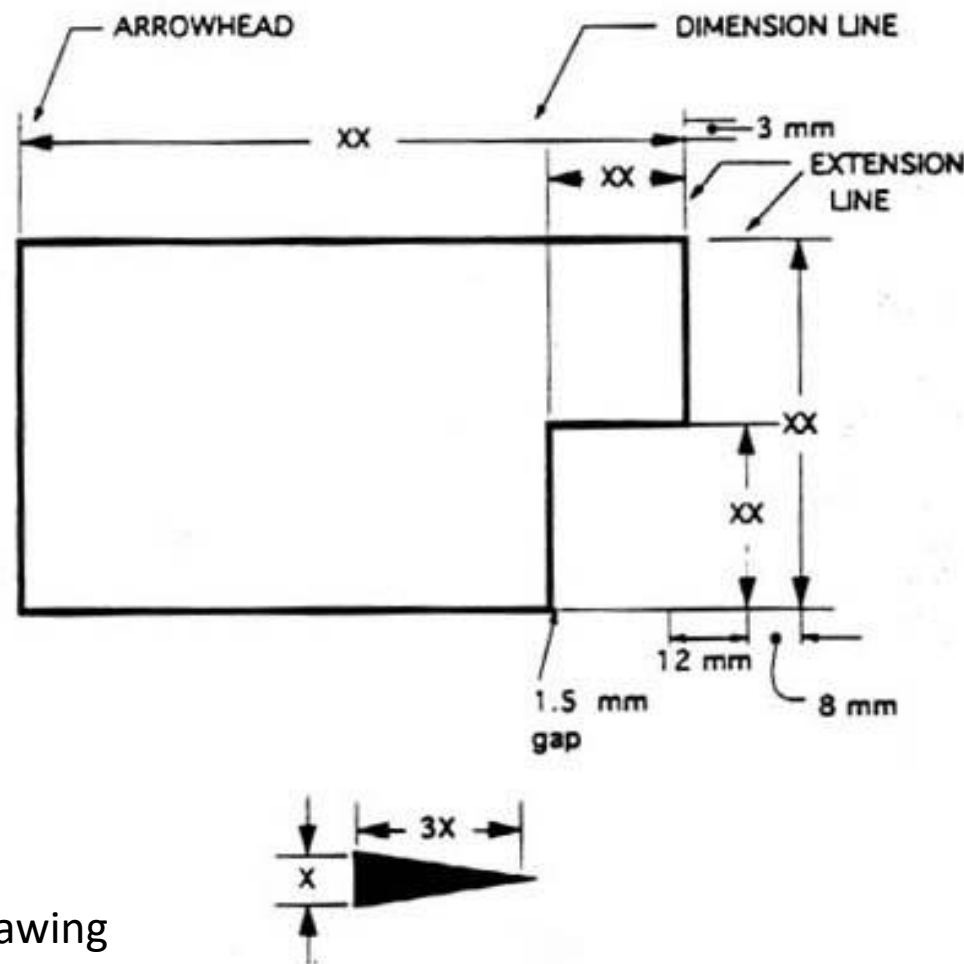

Figure 23 - Dimensioned Drawing
- The **dimension line** is a thin line, broken in the middle to allow the placement of the dimension value, with arrowheads at each end (figure 23).
- A leader may also be used to indicate a note or comment about a specific area. When there is limited space, a heavy black dot may be substituted for the arrows, as in figure 23. Also in this drawing, two holes are identical, allowing the "2x" notation to be used and the dimension to point to only one of the circles.